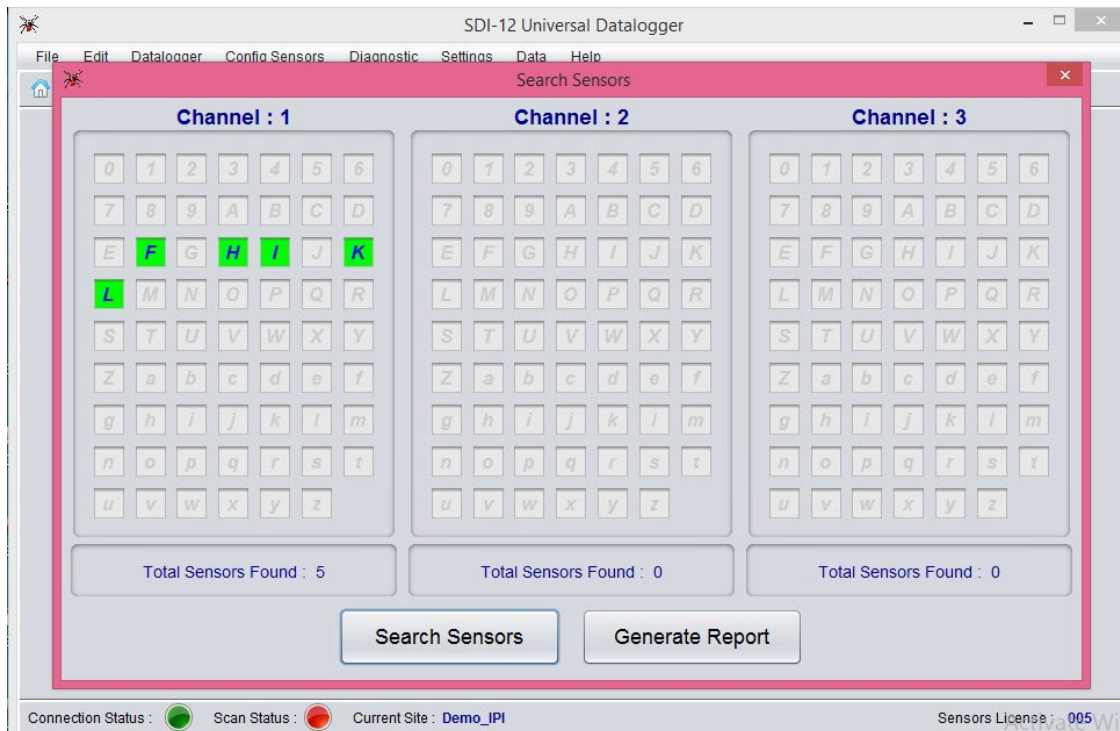

Figure 31 Search sensor window showing the detected sensors
- On completion of search progress, addresses of sensor will be displayed (figure 31). Note down/generate report for later usage. Close “Search Sensors” window after use.